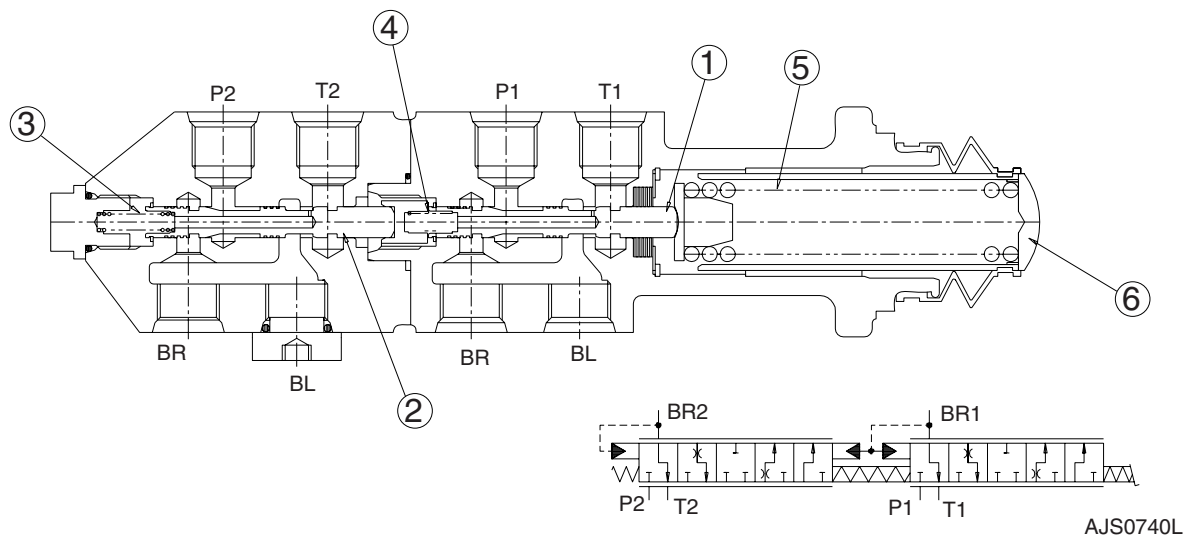

Figure 2
The brake pedal valve is attached to, and operated by, the brake pedal. See Figure 1. The valve contains two spools. See Figure 2. One spool ports fluid to the brake pistons in the front axle, and the other spool ports fluid to the brake pistons in the rear axle. Maximum system operating pressure is 45 ± 3 bars (653 ± 44 psi). If something in one of the circuits should fail, the other circuit will continue to operate.
When the brake pedal is depressed, force is applied to the working element (6, Figure 2). This force is transferred to the primary control spool (1) and the secondary control spool (2) by the main control spring (5). This causes the control spools to close the path from the supply ports (P1 and P2) to the tank ports (T1 and T2). Simultaneously, the spool then open a path from the brake circuit ports (Br1 and Br2) to the supply ports (P1 and P2). Drilled passages in the control spools (1 and 2) allow fluid pressure in the ports P1 and P2 to act against the main control spring (5). This allows the brake pressure in both circuits to rise proportionally to the force applied to the brake pedal.